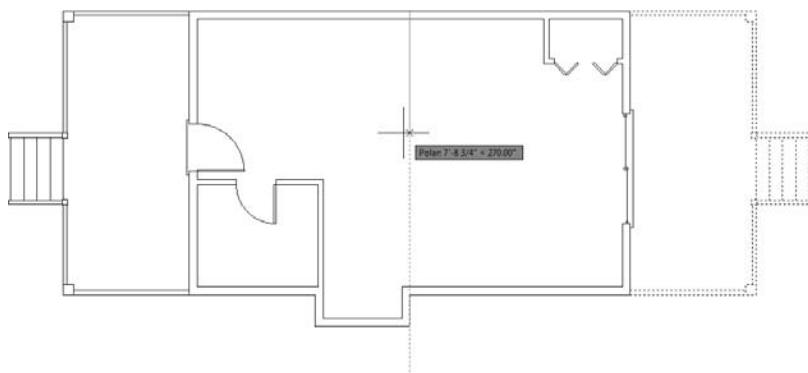

FIGURE 5.31 Mirroring the front deck to the rear of the cabin
6. Move the cursor downward. With Polar Tracking active, the cursor is restricted to the 270° angle, causing the deck to be mirrored perfectly to the rear of the cabin, as shown in Figure 5.31.